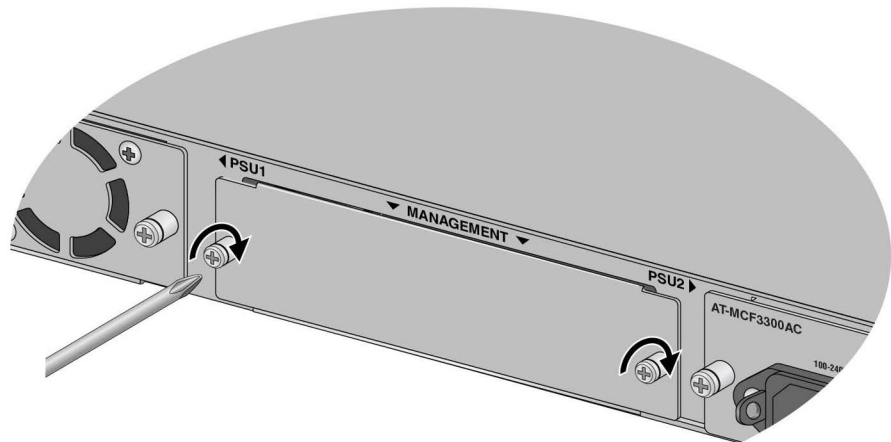

Figure 86. Tightening the Captive Screws on the Blank Management Slot Cover
8. Tighten the two captive screws with a cross-head screwdriver. Refer to Figure 86.